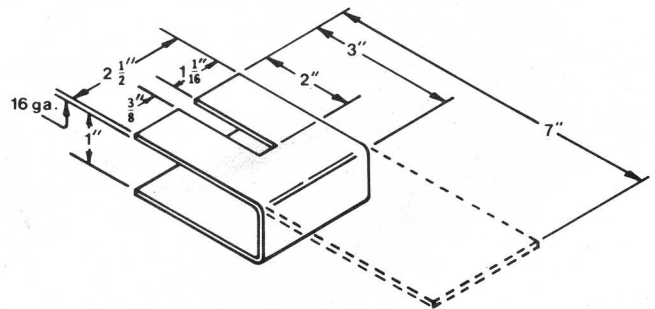

FIGURE 9 Brush Holder Tool
5. Use a brush holder tool (Fig. 9) to keep the brushes in position as the end cap is being installed. This tool can be made from thin sheet metal.